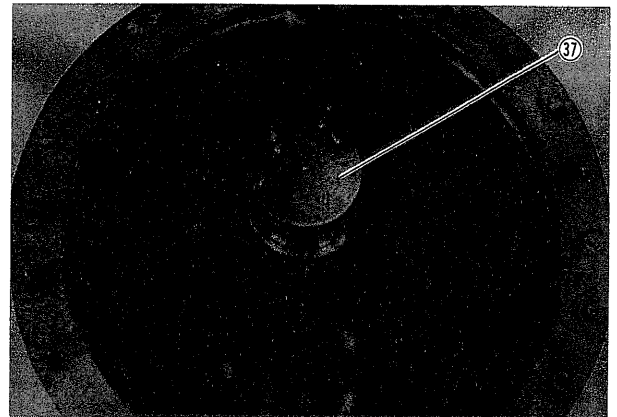

Fig. 94
- (2) Reverse roll and mount eccentric shaft. (Fig. 94)